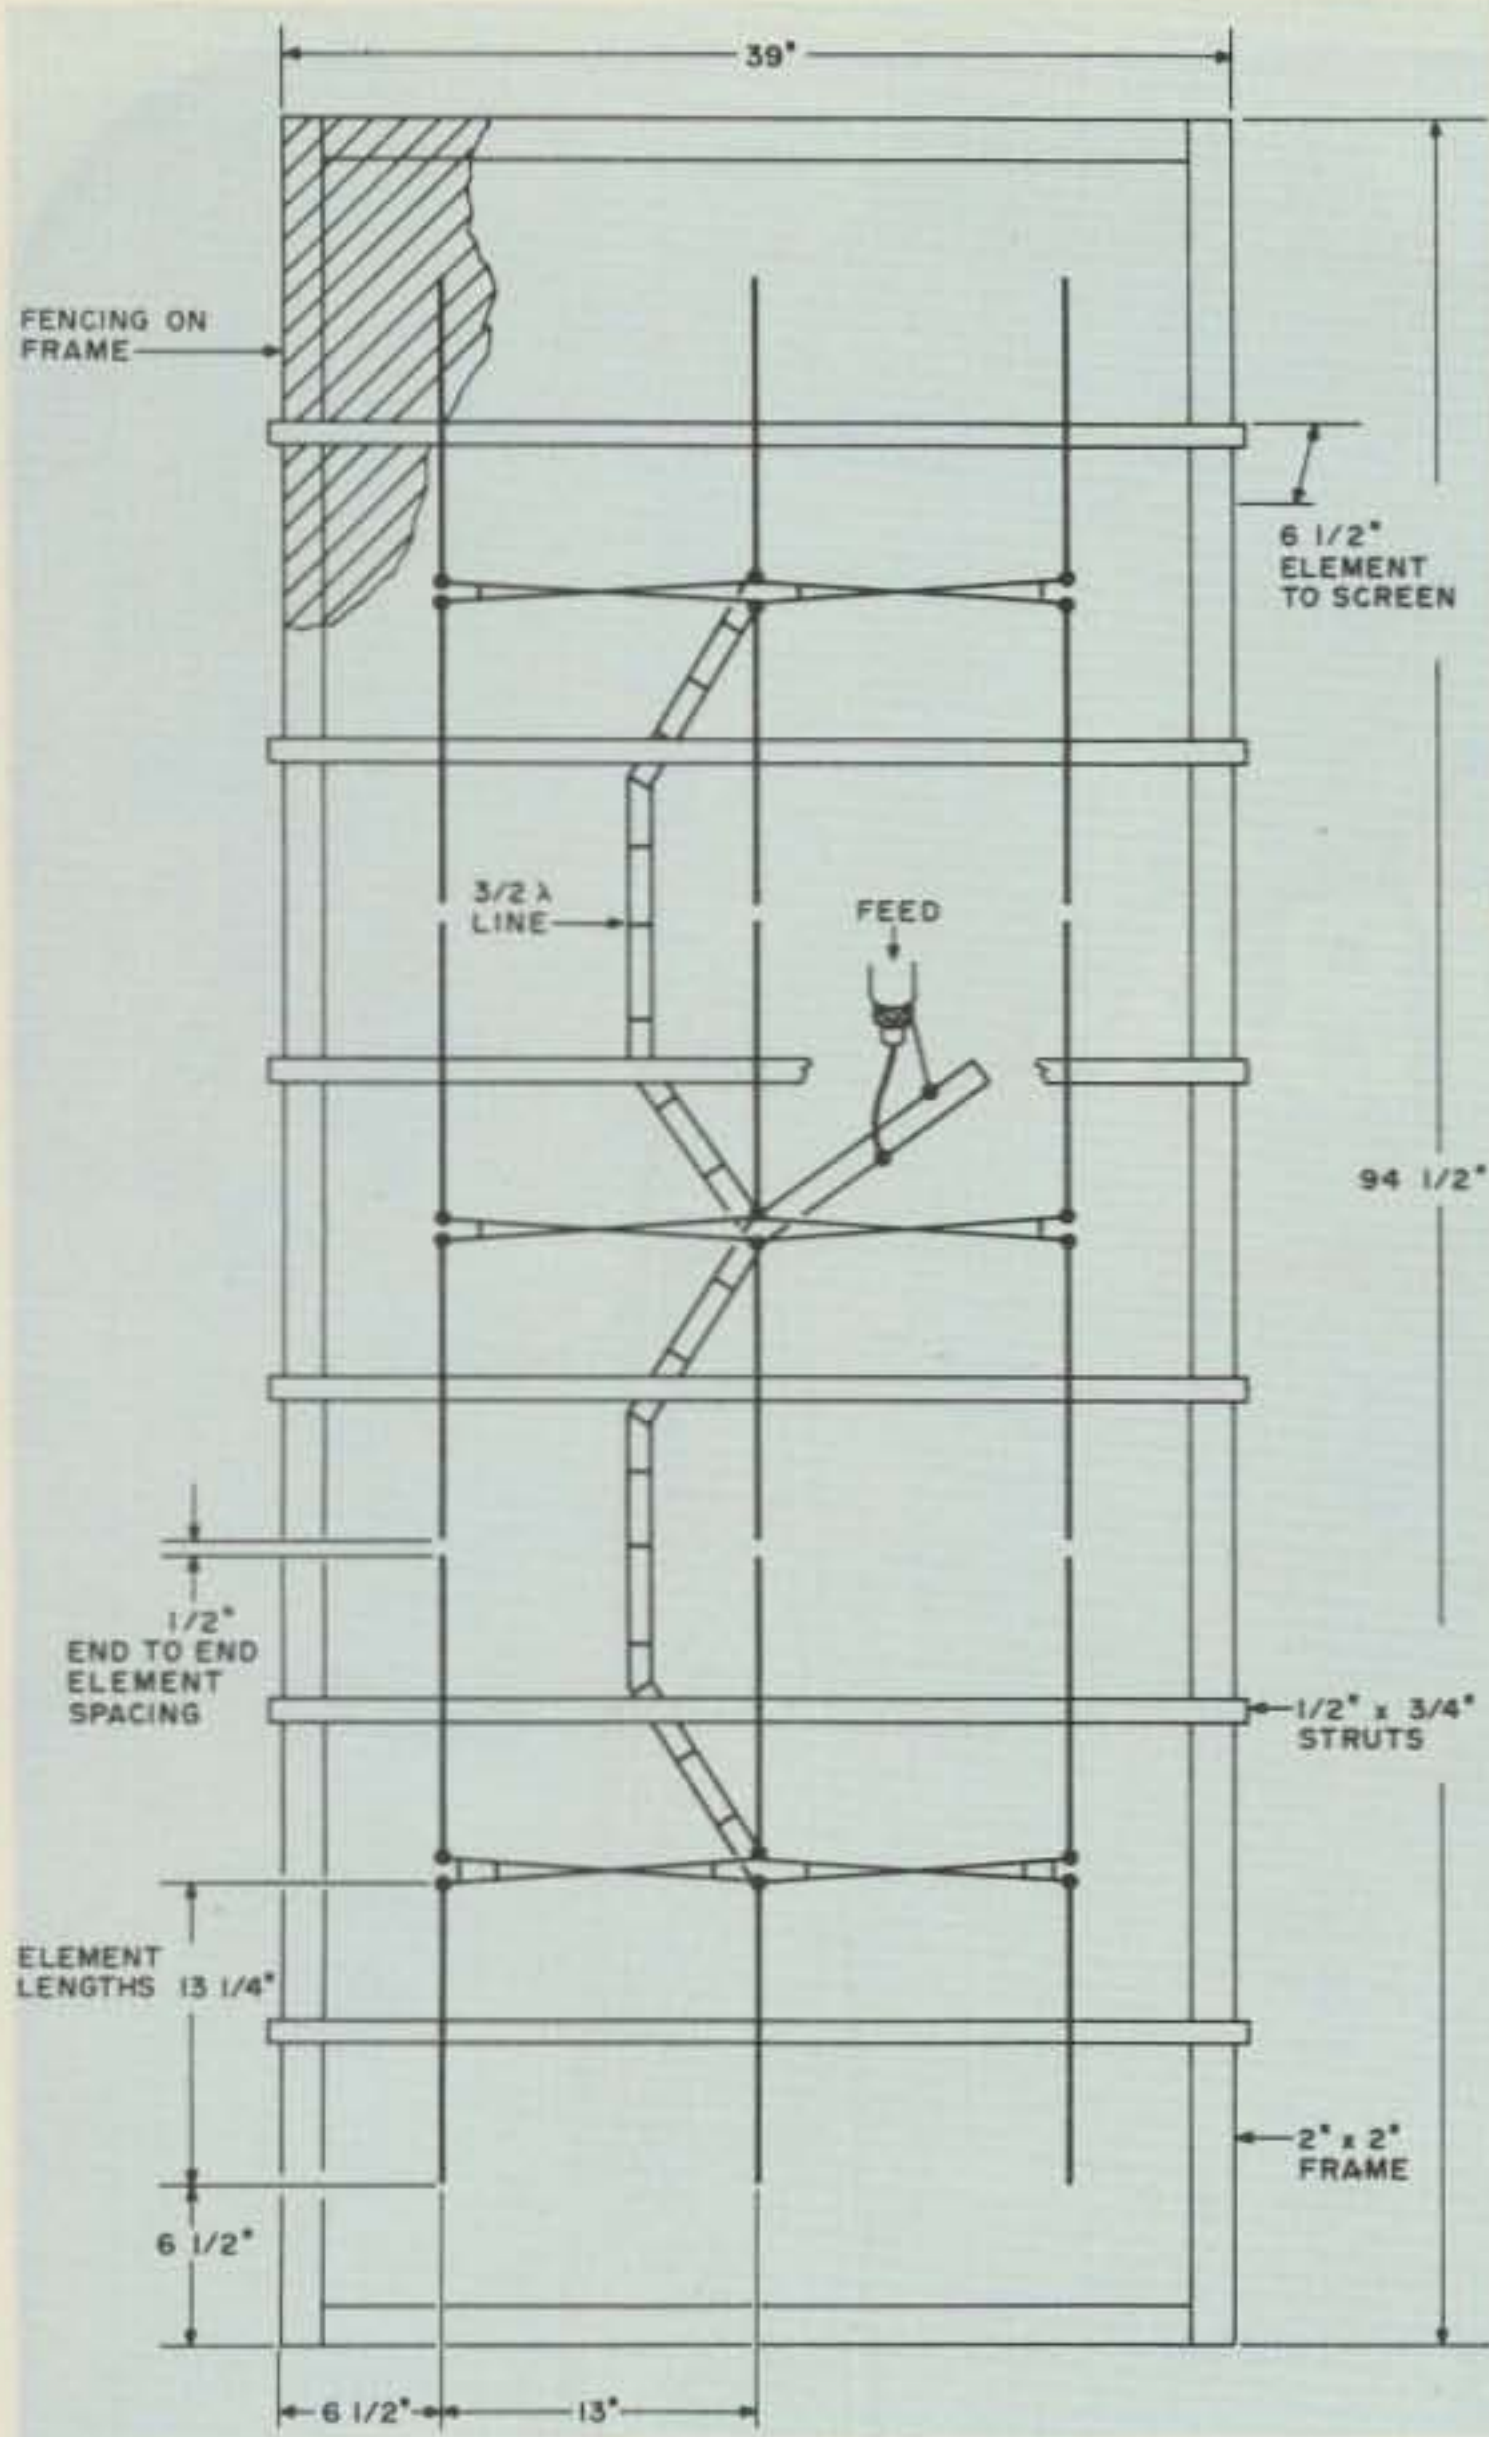

Fig. 1. 440-MHz array construction details.
- 2) The $1/4\lambda$ cheap (less than \$2.00) SO-239 ground-plane antenna of Fig. 1 is a very cost-effective antenna.